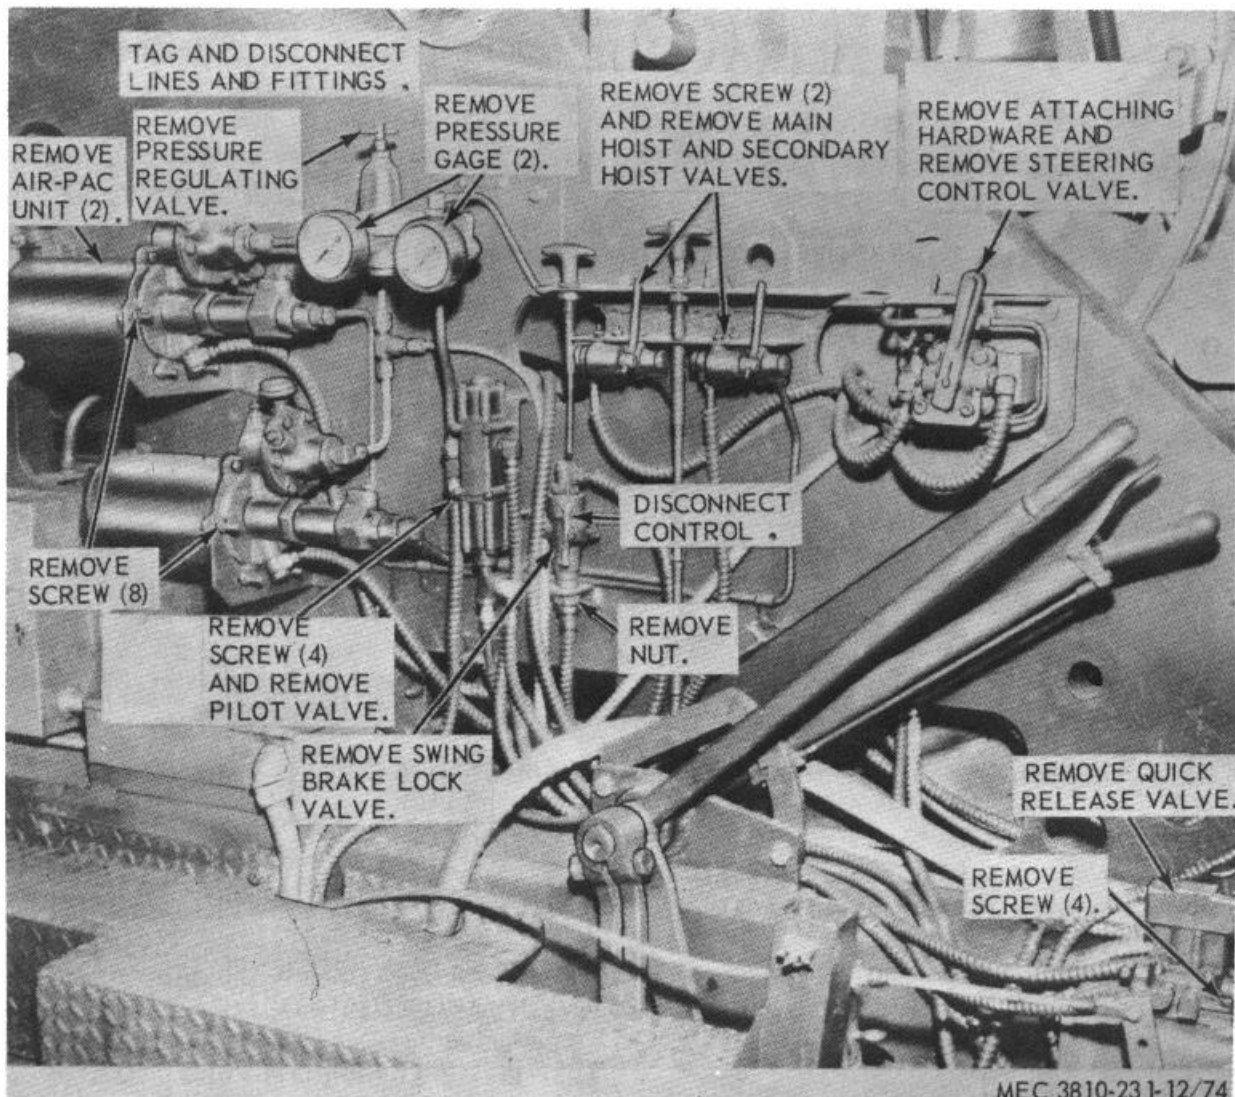

Figure 74. Air system controls, valves and gages, removal and installation.
a. *Removal.* Remove the pressure gages as instructed on figure 74.
- (1) Clean gages with a cloth dampened with an approved cleaning solvent.
- (2) Inspect gages for cracked glass, stripped threads and other damage. Replace a damaged or defective gage.
c. *Installation.* Install the pressure gages as instructed on figure 74.
a. *Removal.* Remove the pressure regulating valve as instructed on figure 74.
- (1) Clean regulating valve with a cloth dampened with an approved cleaning solvent.
- (2) Inspect regulating valve for cracks, breaks, stripped threads and other damage. Replace a damaged or defective regulating valve.
c. *Installation.* Install the pressure regulating valve as instructed on figure 74.
a. *Removal.* Remove air-pac assemblies as instructed on figure 74.
- (1) Clean exterior with a cloth dampened with an approved cleaning solvent and dry thoroughly.
- (2) Inspect for cracks, breaks, stripped threads and other damage. Replace a defective air-pac.
c. *Installation.* Install air-pac assemblies as instructed on figure 74.
a. *Removal.* Remove the pilot valve as instructed on figure 74.
- (2) Inspect for cracks, breaks and other damage. Replace a damaged or defective pilot valve.
c. *Installation.* Install the pilot valve as instructed on figure 74.
a. *Removal.* Remove the swing brake lock valve as instructed on figure 74.
- (2) Inspect for cracks, breaks, and other damage. Replace a defective or damaged valve.
c. *Installation.* Install the swing brake lock valve as instructed on figure 74.
a. *Removal.* Remove the hoist brake valves as instructed on figure 74.
- (2) Inspect for cracks, breaks and other damage. Replace a damaged or defective valve.
c. *Installation.* Install hoist brake valves as instructed on figure 74.
a. *Removal.* Remove the steering control valve as instructed on figure 74.
- (2) Inspect for cracks, breaks, and other damage. Replace a damaged or defective valve.
c. *Installation.* Install the steering control valve as instructed on figure 74.
a. *Removal.* Remove quick release valve as instructed on figure 74.
- c. *Installation.* Install the quick release valve as instructed on figure 74.